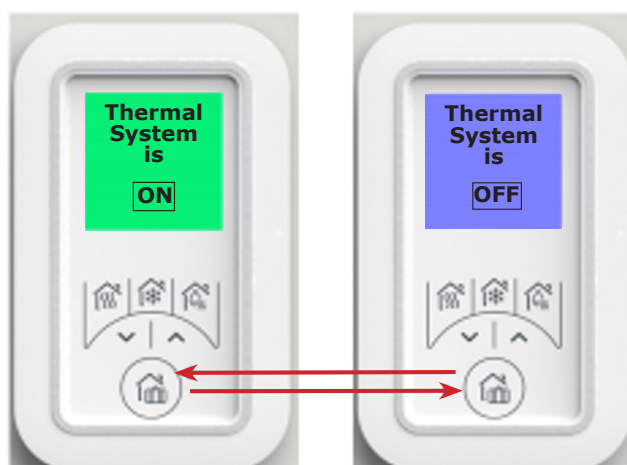

Fig. 59 : Thermal System On/Off
- Use the down arrow to place a tick in the OFF box, then press the Home Button to apply the change entering standby mode. Screen shown in Fig. 59.
- To deactivate standby mode, press the Home Button so that it displays the green screen shown in Fig. 59.